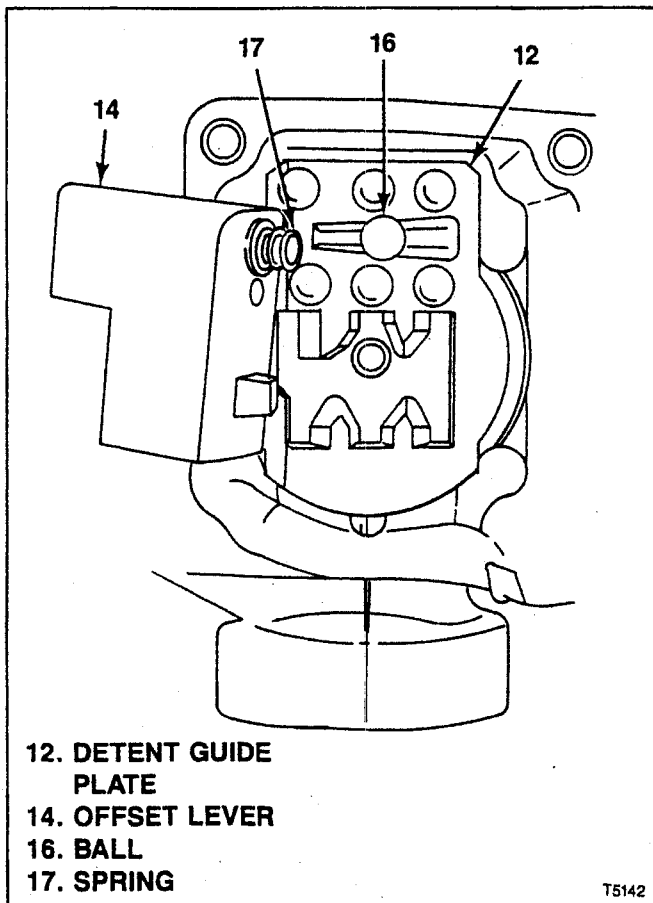

Figure 7-20. T5 NWC Ball in 3rd-4th Position
e. Lubricate detent guide plate (12) in extension (11A) or adapter (11B) with lithium grease. Position extension or adapter so that it easily can be picked up and installed on transmission.
f. Position ball (16) in 3-4 position in detent guide plate (12) (see figure 7-20).
g. Insert spring (17) in offset lever (14). Use petroleum to hold in place.
h. Position offset lever (14) (with spring) in extension (11A) or adapter (11B), engaging open end of spring (17) on ball (16) and push down on offset lever with one hand, pick up extension or adapter with the other and move parts into position at rear of transmission. Guide offset lever over end of shifter shaft (23) while moving extension or adapter up against rear of transmission case (106).
i. Install bolts (10) and torque to 23 lb-ft (30 Nm).
j. Align pin holes in offset lever (14) and shifter shaft (3) and drive in roll pin (9).